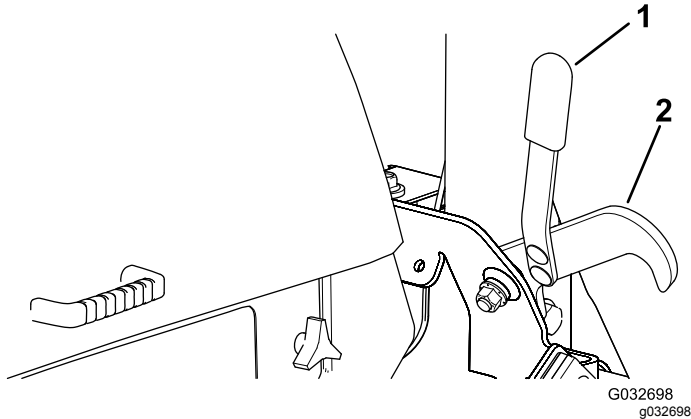

Figure 29
2. Using the handle, unhook the latches holding the decks in the raised position (Figure 29).